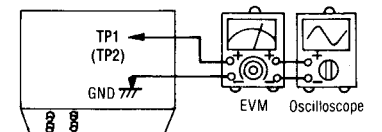

Fig. 6
- The serial number plate of the product is attached to the back chassis (shown in fig. 6).
1. Test equipment connection is shown in Fig. 6.